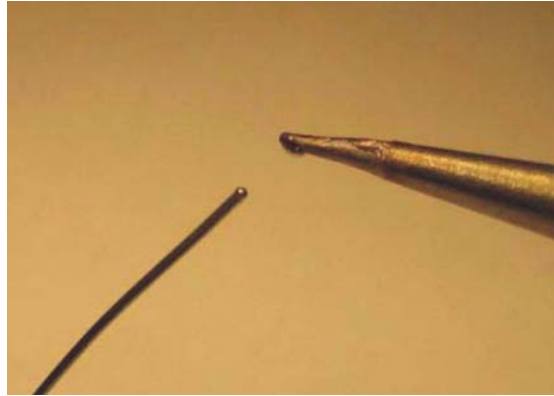

Figure 2-35 Small amount of solder added to ZIF Tip of soldering iron
- 3 Clean the soldering iron tip and add a small amount of solder to the very tip. This may take a few tries because the solder may tend to ball up and move away from the tip. Figure 2-35 shows a small amount of solder on the tip of the soldering iron.